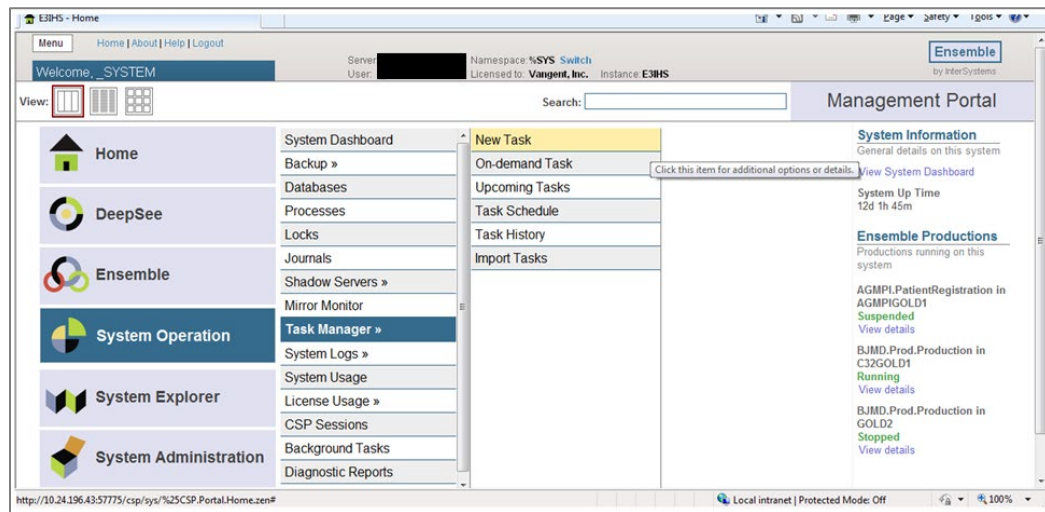

Figure 7-1: Management Portal page, New Task option
1. On the **Management Portal** page, click **System Operation | Task Manager > | New Task**, as shown in Figure 7-1, to access the **Task Scheduler Wizard**, as shown in Figure 7-2.